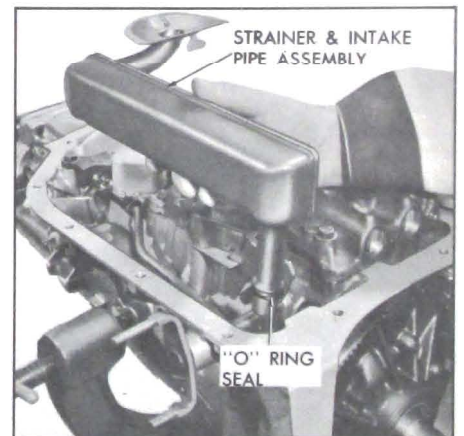

Figure 5-510
7. Remove the pump intake pipe and strainer assembly. See Figure 5-510.